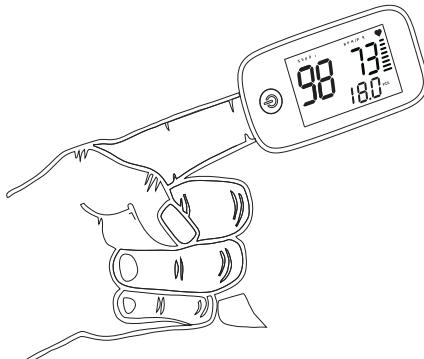

Figure 6 Finger Placement Diagram
- . It is recommended to let the LED light shine directly on the nail (Figure 6);